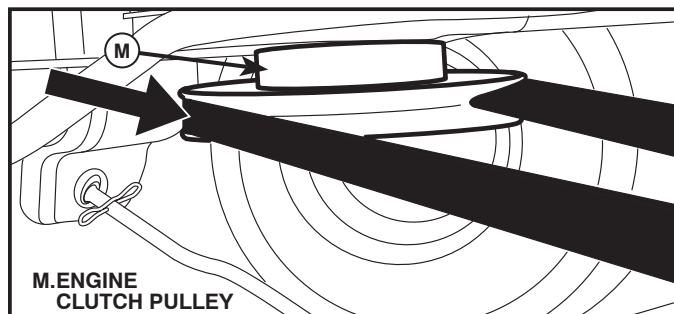

Fig. 15
9 INSTALL BELT ON ENGINE CLUTCH PULLEY (M) (See Fig. 15 & 7)
- Disengage belt tension rod (K) from locking bracket (L).
- Install belt onto engine clutch pulley (M).